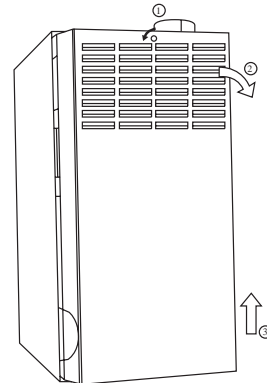

Fig. 7 - Remove Furnace Door
5. Turn the switch on the gas control to the **OFF** position. (See Fig. 7.)